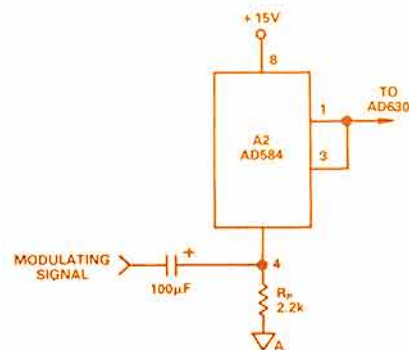

Figure 3. Input modification for amplitude modulation.
The astable circuit described above, using the AD630, can maintain oscillation while, at the same time, it is being amplitude modulated. If an a-c or slowly varying d-c signal is summed with the output of the reference source and applied as a composite input to the AD630 oscillator, a very linear amplitude modulator (AM) results. Figure 3 shows a modification to the reference circuit that will accomplish this form of modulation.